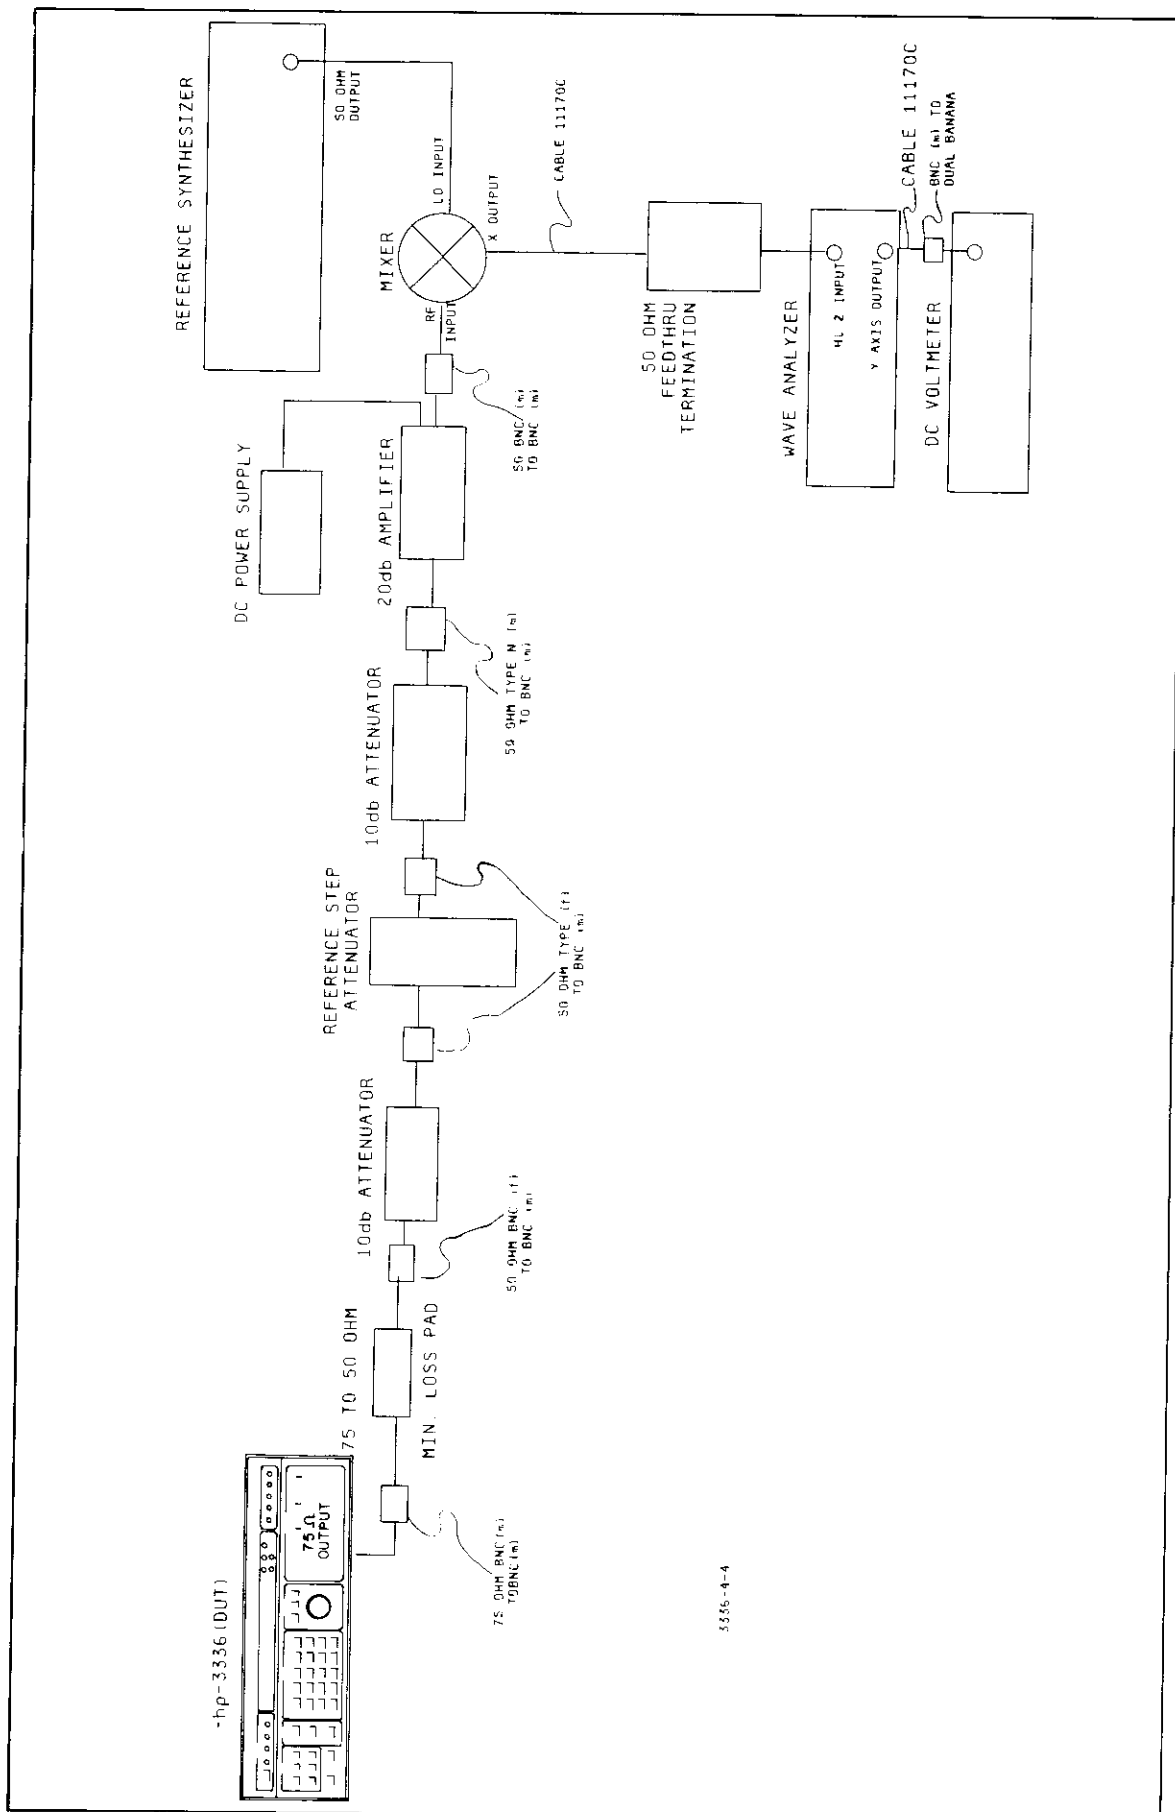
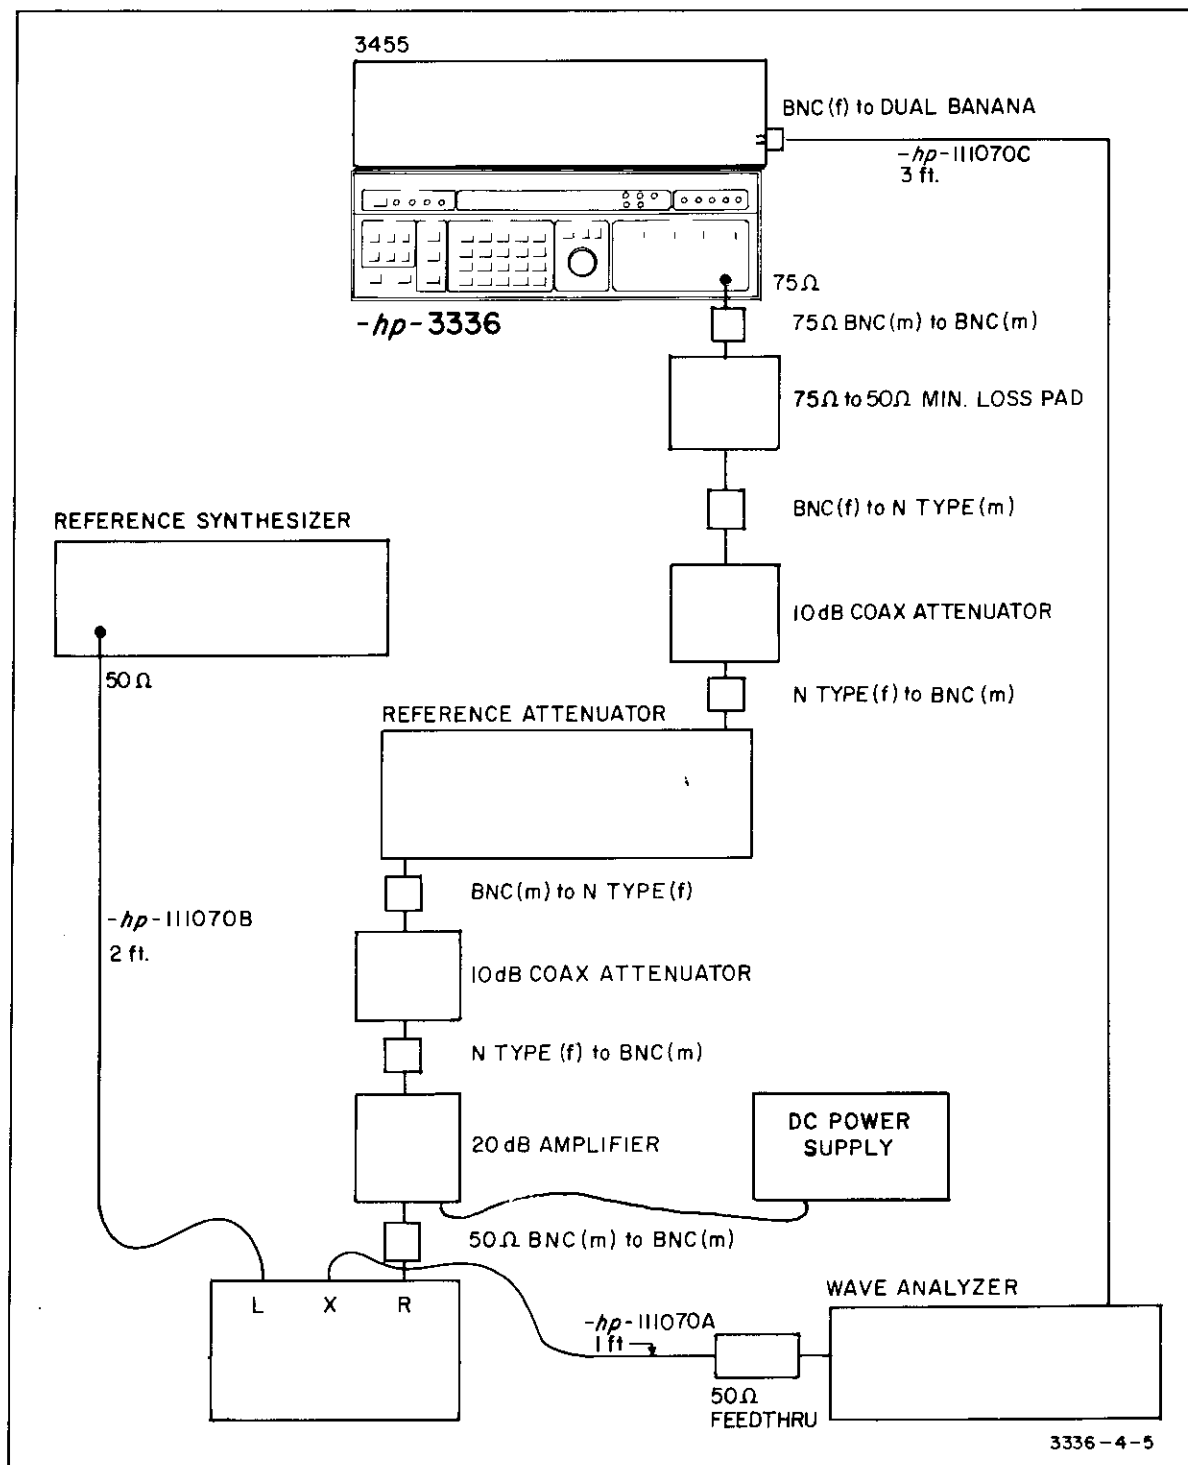

Figure 4-4. Equipment Set Up for Attenuator Accuracy Test
Figure 4-5. Physical Location for Attenuator Accuracy
a. Connect the equipment electrically as shown in Figure 4-4 and physically as shown in Figure 4-5.
The quality of the test results depends upon the equipment arrangement. It is important that the physical location of the instruments be as shown in Figure 4-5. Do not cross cables. Allow the Q-Bit Amplifier 30 minutes to warm-up.